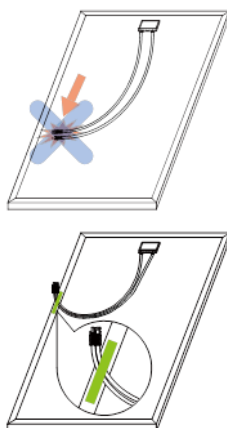

Figure 4. Fixing of cables and connectors
- To avoid the damage of the back sheet by the connector, fix the cables to the frame with tape after unpacking. (refer Figure 4)